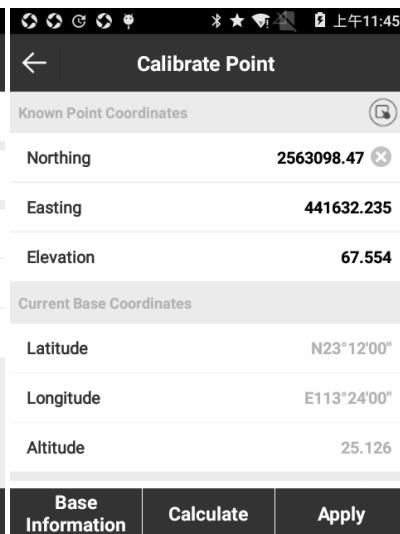

Figure 3.4-2
(1) Press [Base Point Calibration] to enter interface as shown in Figure 3.4-2.